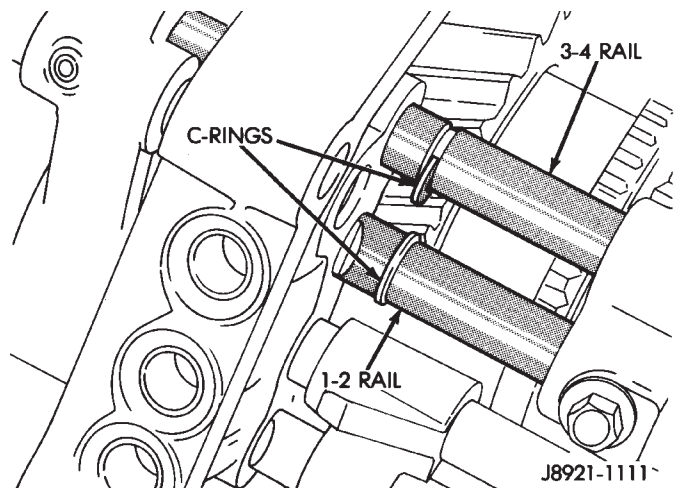

Fig. 96 Installing Shift Rail C-Rings
(13) Install 1-2 and 3-4 shift rail C-rings (Fig. 96).
(14) Insert fifth gear shift rail through reverse shift fork. **Then slide rail into intermediate plate just far enough to secure interlock ball. Do not fully install shift rail at this time.**